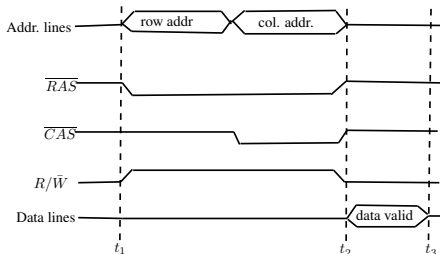

Figure 15: Timing diagram of DRAM.
7. Figure 15 shows a simplified timing diagram of a DRAM read operation over a bus. The access time is considered to last from  $t_1$  to  $t_2$ . Then there is a recharge time, lasting from  $t_2$  to  $t_3$ , during which the DRAM chips will have to recharge before the processor can access them again.